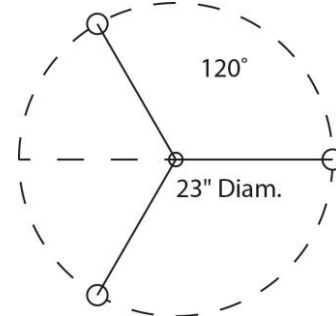

Figure 6
1. On a concrete pad or other stable mounting platform, drill 3 holes according to the mounting dimensions given in the diagram below. (Figure 6)